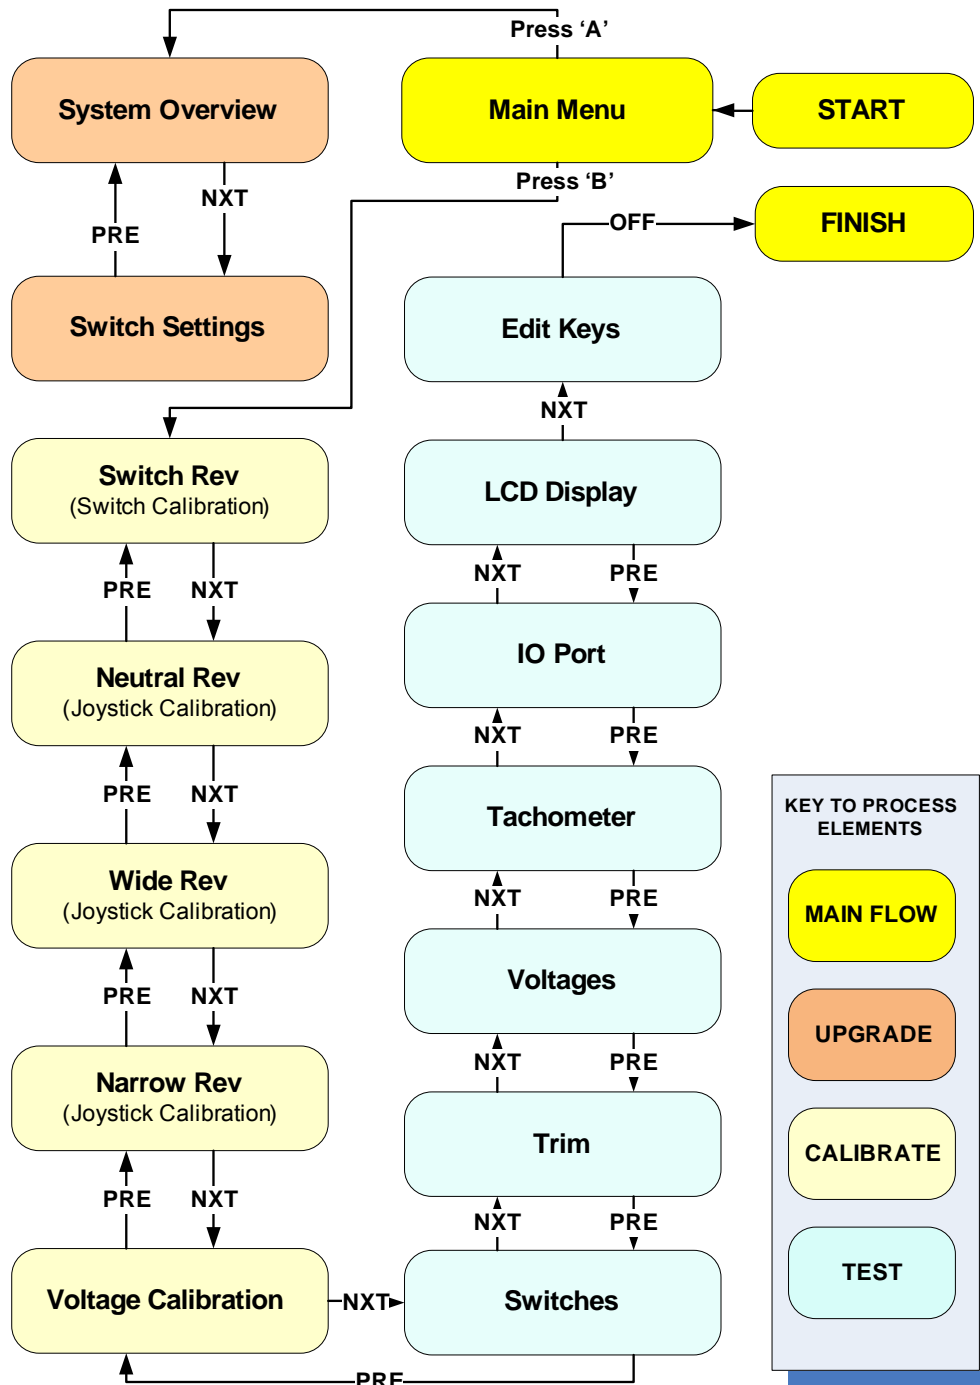

Figure 77 Overview Flowchart for Futaba 9Z Service and Test Menus
4. Turn on the 9Z transmitter and the first service menu item (Main Menu) is displayed on the LCD (see Figure 77)
The overall flowchart for cycling through the menus is shown in Figure 77. Note that you will have to choose between the Service and Test Menu loop and the Upgrade Menu loop at the Main Menu. Once you have chosen you'll need to power off the transmitter if you wish to enter the other menu loop as there is no way to return to the Main Menu screen.